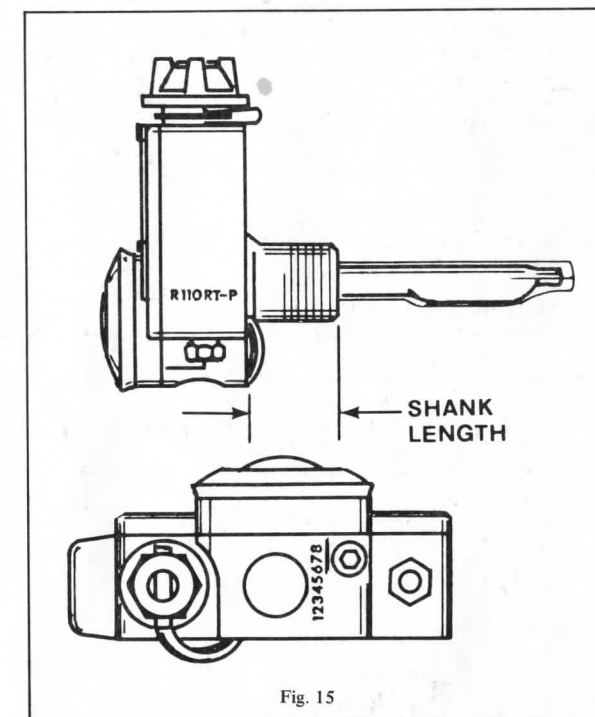

Fig. 15
3. Shank Length (See Fig. 15).